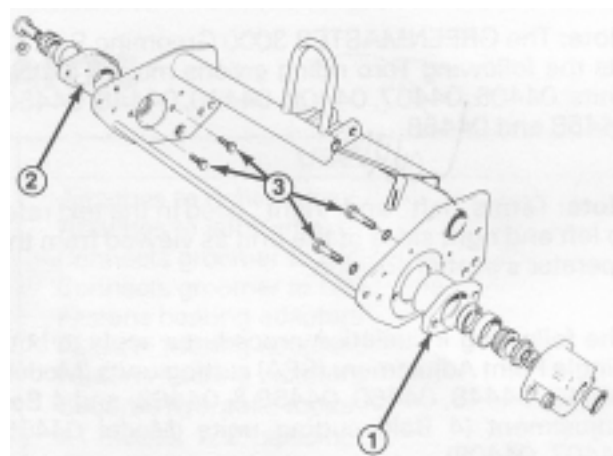

Figure 6
8. On each end, unscrew the machine screws securing the reel bearing housings to allow the screw heads to be cut off. Cut off the screw heads (Fig. 6). From the outside of the unit, back the remainder of the screws out away from the reel with a screwdriver or pliers.